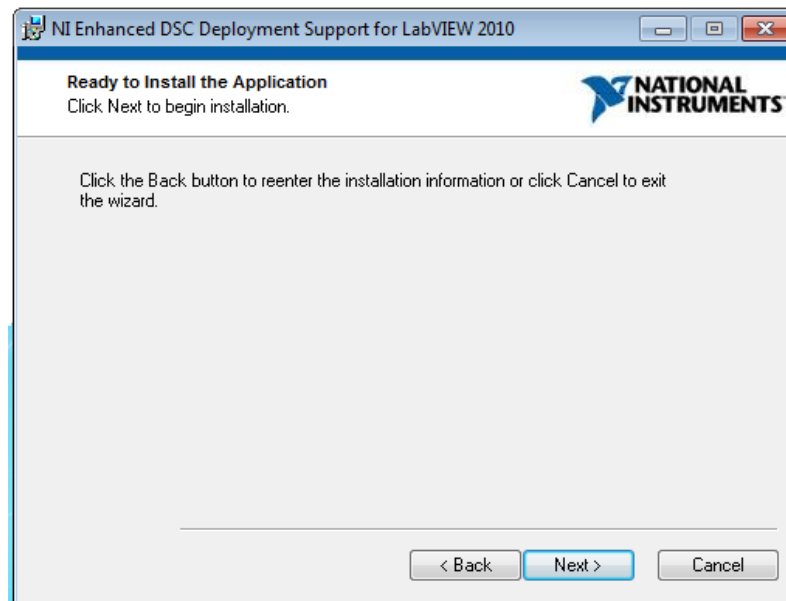

Figure 1-18 Start Installation
5. A screen shown in Fig.1-18 will appear, click **Next** to begin Installation.